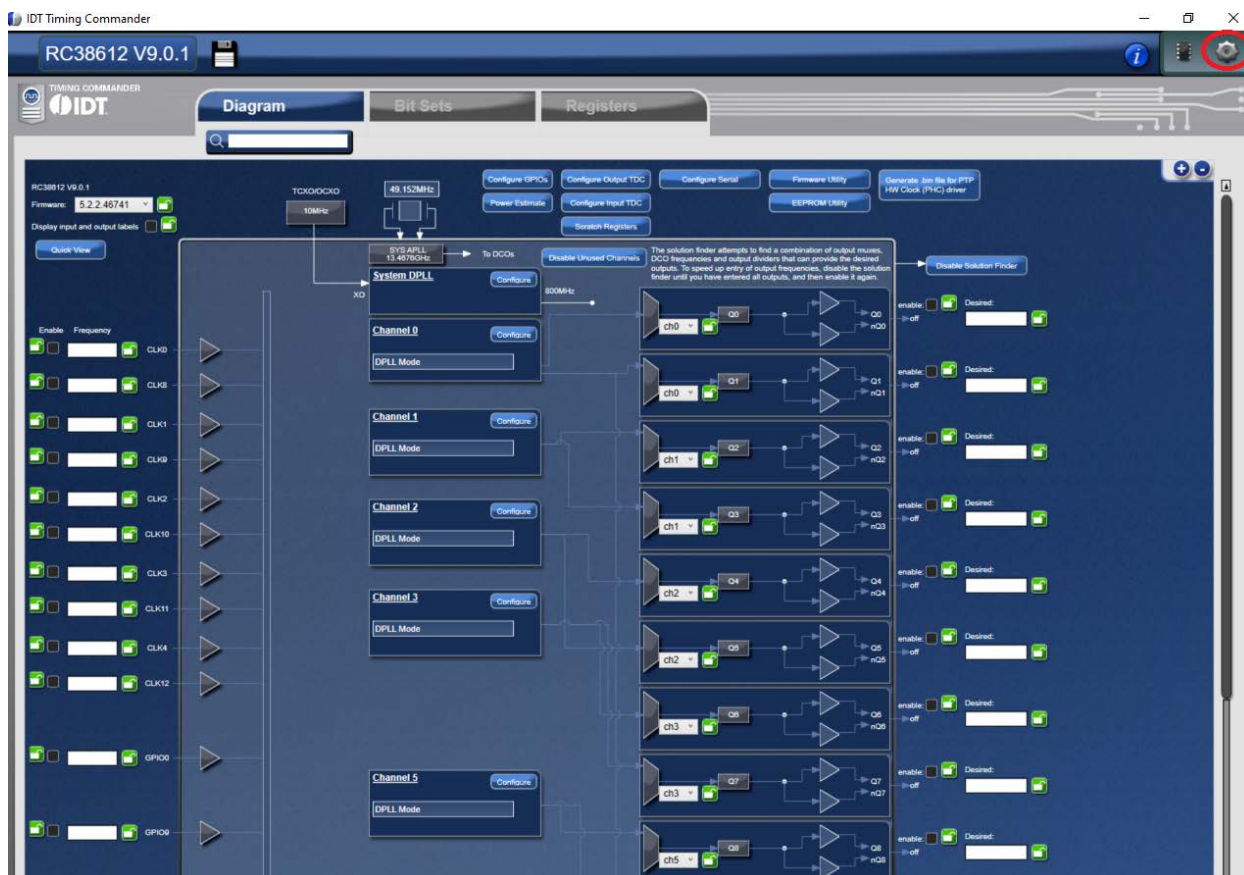

Figure 9. Timing Commander GUI with a Settings File Opened
4. The GUI window with the RC38612 block diagram will open for configurations; or if “Open Settings File” is selected in Step 5 above, you will be prompted to browse and select an existing .tcs file and the personality file. When the configuration file is open, all configured values will be displayed as in Figure 9.
5. In order to connect the board with Timing Commander (PC), click the button (red circle) at the up-right corner of the GUI to set up the communication protocols (see Figure 9). After I2C and one-byte addressing are selected, click OK to close the window (see Figure 10).